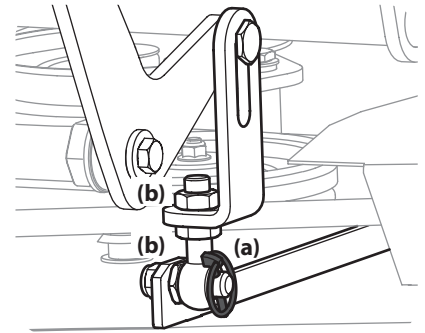

Figure 41
3. Adjust the eyebolt (a) at the left front of the deck so that the blade-to-ground height at the right outside blade tip matches that of the left outside blade tip. This is done by loosening the jam nuts (b) on the eyebolt (a) and tightening the upper jam nut (b) to raise the deck and loosening the jam nut (b) to lower the deck. The right outer blade tip height is fixed by the right, front eyebolt (a) so you must adjust the left outer tip to match it. See Figure 41.
4. Once the proper adjustment is made, re-tighten the jam nuts (b). See Figure 41.
3. Loosen the jam nuts (b) at the rear left and right of the deck eyebolts (a). Refer to Figure 41.
4. Start at the rear right to raise the rear of the deck, tighten the upper jam nut (b) to raise the deck or loosen the upper jam nut (b) to lower the rear of the deck. Refer to Figure 41.
5. Adjust the jam nut (b) at the rear left to take the "slack" out of the threaded rod. Refer to Figure 41.
6. Tighten both lower jam nuts (b) to secure the deck adjustment. Refer to Figure 41.
7. The final adjustment would be to take the "slack" out of the left rear linkage if the rear of the deck was raised by adjusting the jam nuts (b) on the eyebolt (a). Loosen the jam nuts (b) and tighten the upper jam nut (b) to remove "slack". Refer to Figure 41.
- In many cases it will be necessary to adjust deck height using both eyebolt (a) adjustments and pitch adjustment to achieve the correct blade-to-ground heights. If you remember that the front right blade tip adjustment is fixed and you level to that height, adjusting the deck will be simplified. Refer to Figure 41 on page 26.